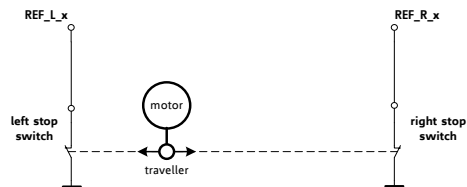
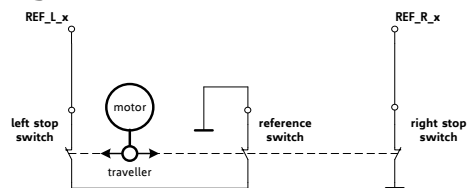

Figure 6.2: Two limit switches
Figure 6.3: Limit switches with extra reference switch
- In **Figure 6.2** the connection of the left and the right limit switch is shown. **Figure 6.3** shows the connection of three switches as left and right limit switch and a reference switch for the reference point. The reference switch is connected in series with the left limit switch. The differentiation between the left limit switch and the reference switch is made through software. Switches with open contacts (normally closed) are used.